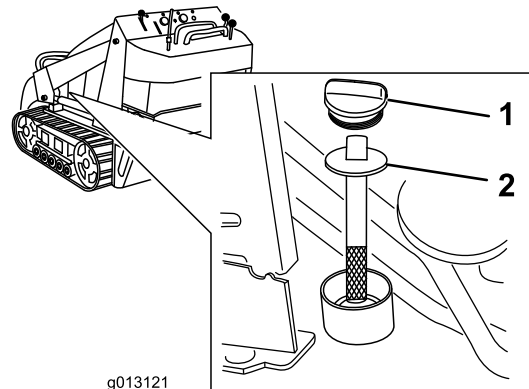

Figure 68
5. Remove the hydraulic-tank cap and dipstick (Figure 68).